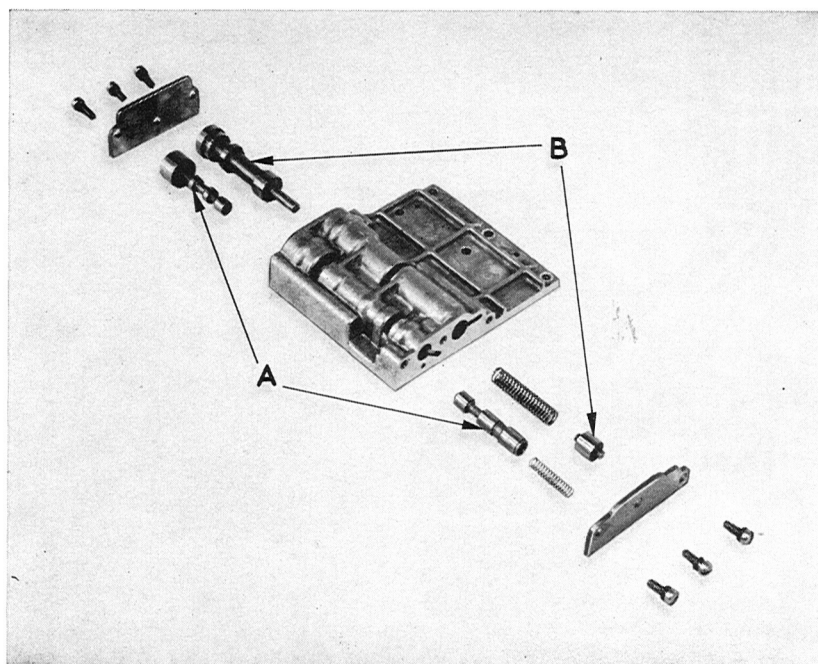

Fig. 4-92. Upper valve body
15. Remove the six screws and end plate from the upper valve body, see Fig. 4-92. Remove the following parts from the rear end of the body: shift valve 2—3, inner spring and plunger together with shift valve 1—2. The spring and plunger for shift valve 1—2 are removed in the other direction.